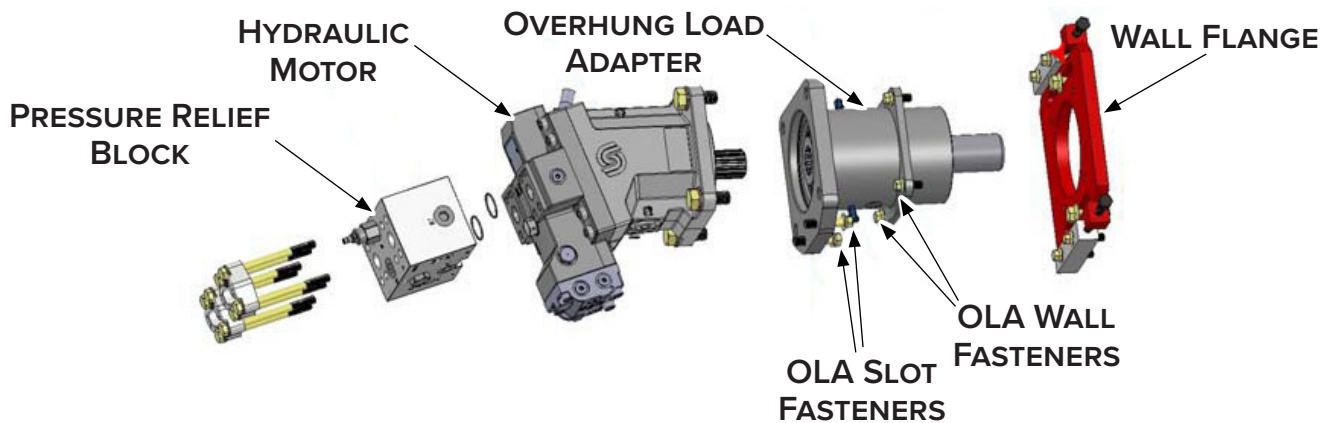

Figure 30
2. Remove all hydraulic hoses off the hydraulic motor and pressure relief block. The fasteners on the pressure block also hold the block onto the hydraulic motor. See “Figure 30” on page 40..
3. Remove all four (4) fasteners to separate the hydraulic motor from the overhung load adapter.
6. Remove all four (4) overhung load adapter wall fasteners to separate the overhung load adapter from the wall flange.